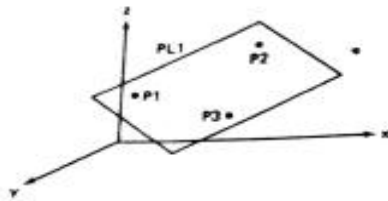

FIGURE A8.12
1. By three points that do not lie on the same straight line. See Figure A8.12.